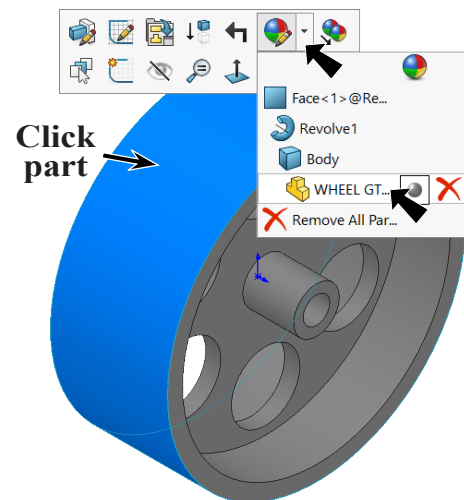

Fig. 25
Step 1. Click the part, click **Appearance Callout** on the context toolbar and click **WHEEL GT-R**, Fig. 25.